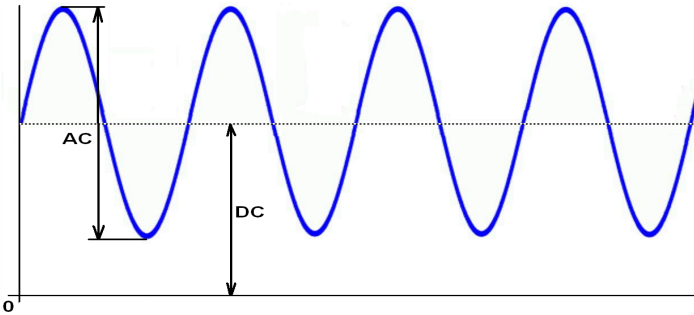

Figure 11.1
Electric signals can be in principle alternating (AC) or direct (DC). Measuring direct signals is very simple, but alternating signals are a bit more complicated. Alternating signals can also contain a direct part, which is manifested as a positive or negative shift of the mean signal value (Figure 11.1).